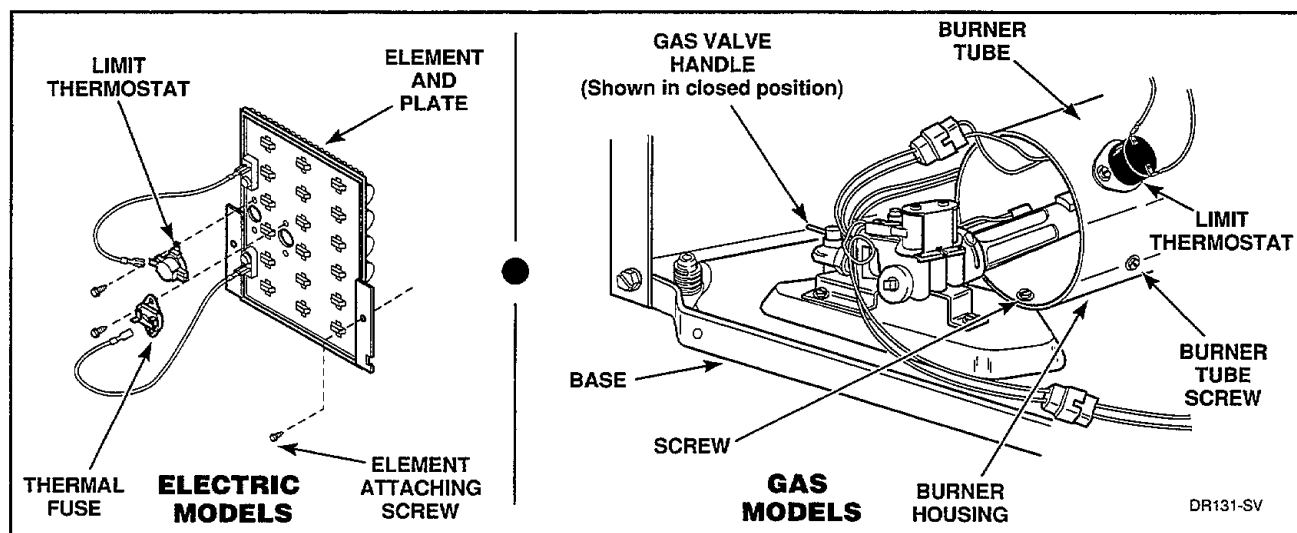

Figure 23
- (1) Remove one screw from right side of burner housing holding burner tube in place, *Figure 23*.
- Remove screw from right side of burner housing, while holding burner tube in place, *Figure 23*.
- Remove screw holding front of burner housing to dryer base and remove housing out through front of dryer, *Figure 23*.
- Disconnect wires and remove screws attaching limit thermostat to burner housing or element plate, *Figure 23*.
- Remove two screws holding element and plate to heater box and pull element down and away from heater box, *Figure 23*.
- Disconnect wires from element and plate, *Figure 23*.
- Remove screws holding thermostat and thermal fuse to element and plate, *Figure 23*.